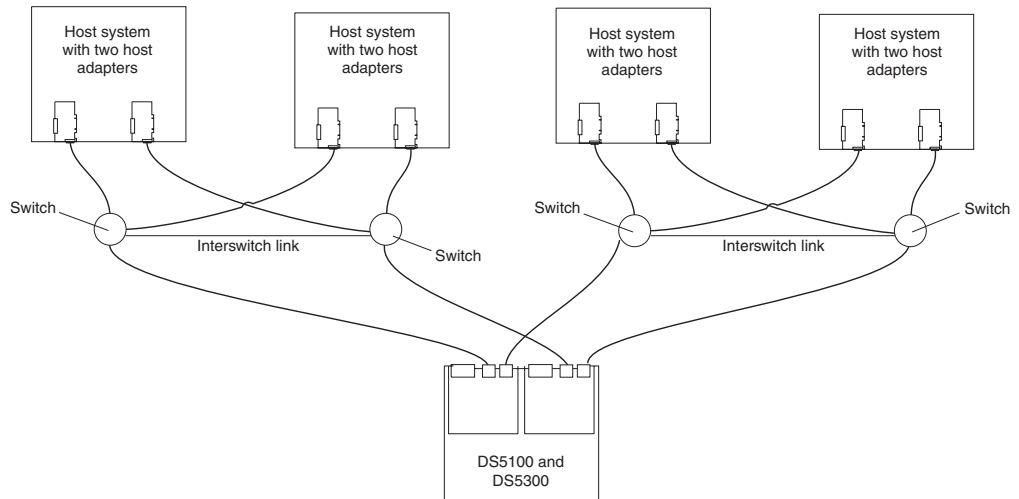

Figure 81. Example of a two-cluster configuration
- Two clusters, as shown in Figure 81 on page 118
Figure 81 on page 118 gives an example of one and four host systems configured into two clusters; each cluster comprised of two host systems and two fibre channel switches